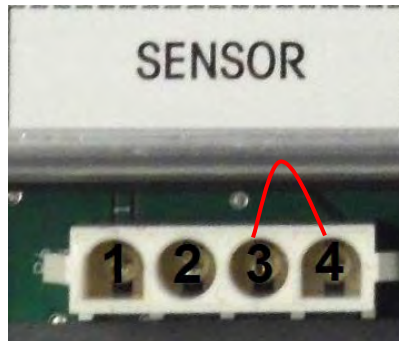

Figure 6
Step 4: Checking the first sensor encoder signal. There are 2 signal wires per sensor encoder connection. See note. Set multi-meter to AC Volts and while the room (in teach mode) is moving, back probe between pin 4 (ground) and pin 3 (signal) at the controller sensor connection. This should be a steady AC signal. See figure 6.